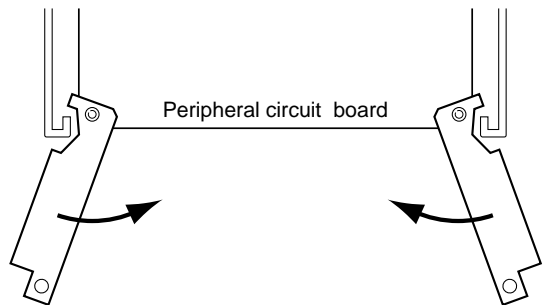

Fig. 3.4.2 Installing the peripheral circuit board
(1) Unfasten the screws located on the left and right sides of the front panel of the S5U1C63000H2 by turning them counterclockwise, then remove the front panel.
(2) Insert the peripheral circuit board into the uppermost slot and push it using the jig attached with the S5U1C63000H2 as shown in Figure 3.4.2.